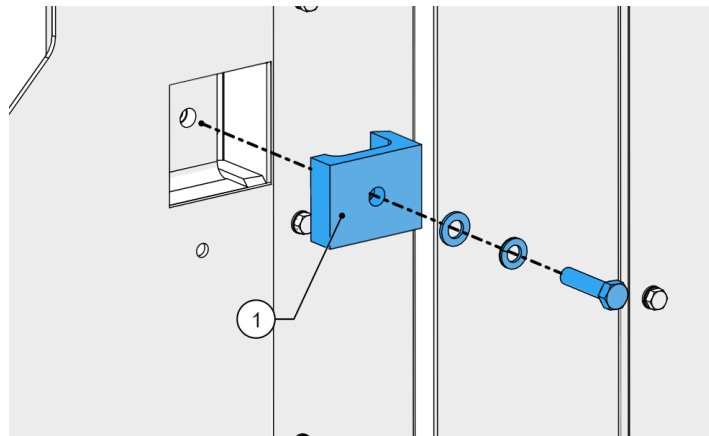

Figure 56 - Anvil clamp position
4. Locate the anvil clamp (1, Figure 56).